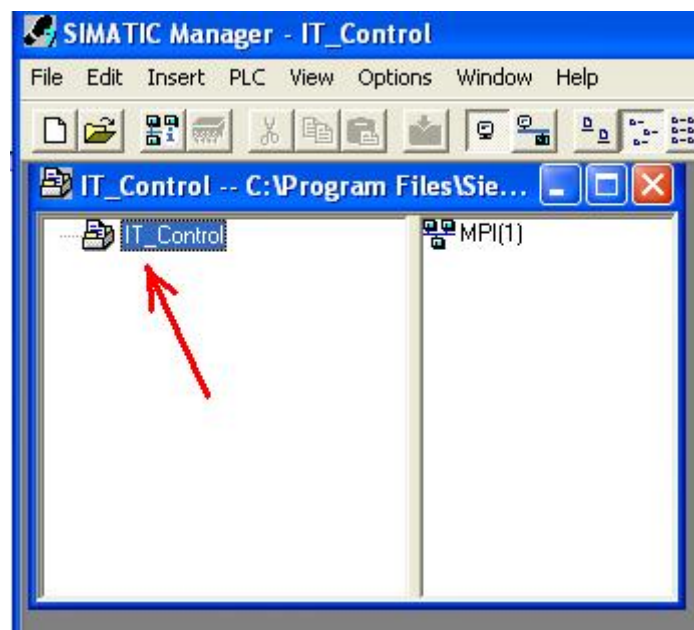

Figure A.4 Entering hardware components
4. As we can see from the Figure A.4 the project only includes the MPI bus, for other hardware components we must right click on the project icon, and enter the component that we need.